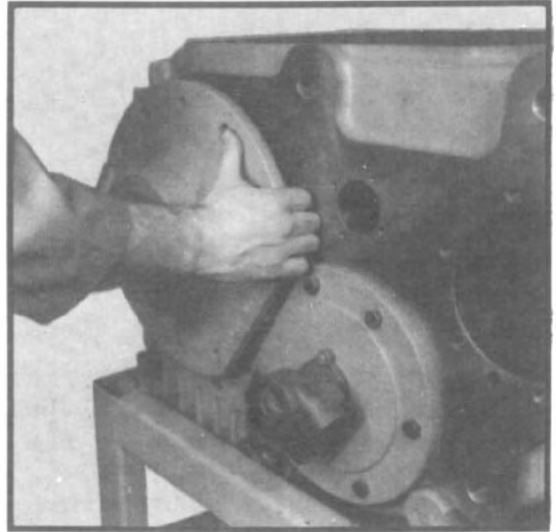

Fig. 32
- 1.6 Remove eleven capscrews holding speedometer gear carrier to main housing, tap carrier lightly to break loose, and remove from housing by tapping with a soft hammer on front of the lower shaft. (See fig. 32)